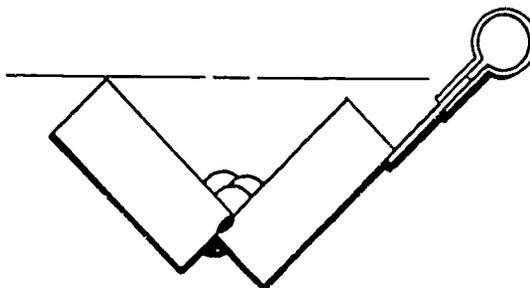

FIGURE 3
- E. Place metal in the flat position for welding (Figure 3)